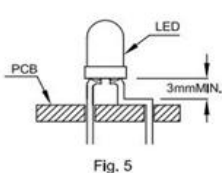
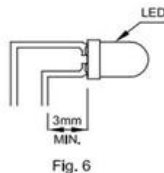

Fig. 5
Fig. 6
- 4, Maintain a minimum of 3mm clearance between the base of the LED lens and the first lead bend (Fig. 5, Fig. 6).